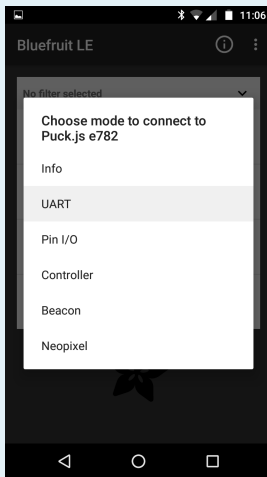

Figure 16-4 Select the *UART* connection method in Adafruit's Bluefruit app
3. In the pop-up window on Android, tap *UART*, or on iOS, tap *UART* at the bottom of the screen (Figure 16-4).